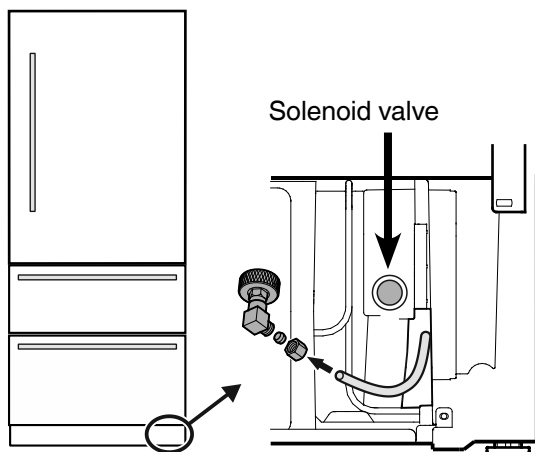

Figure 19
5. Remove the cover from the solenoid valve (Figure 19).
6. Connect the water line to the adapter in the respective configuration, depending on the type of water line used. Figure 19 shows the configuration with a copper line as an example.